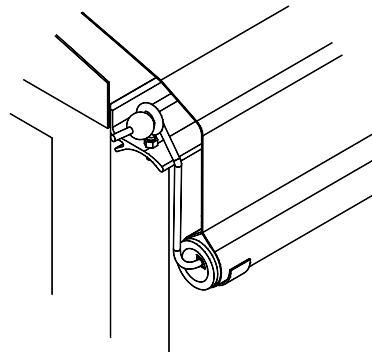

Figure 23
**Procedure:** First drill an 11/32" hole into the front of latch plate 1 1/2" from the edge of the tarp. Fasten the eyebolt (H) to the latch plate with the 5/16" nut (I) and nylock nut (J). Thread the rope through the eyebolt shown in figure 23 and knot the end of the rope to prevent it from going through the eyebolt. Cut any extra material off and melt the end to prevent it from fraying.